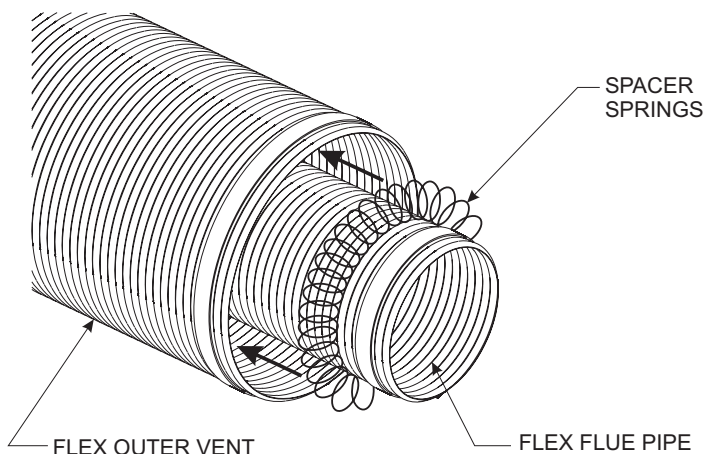
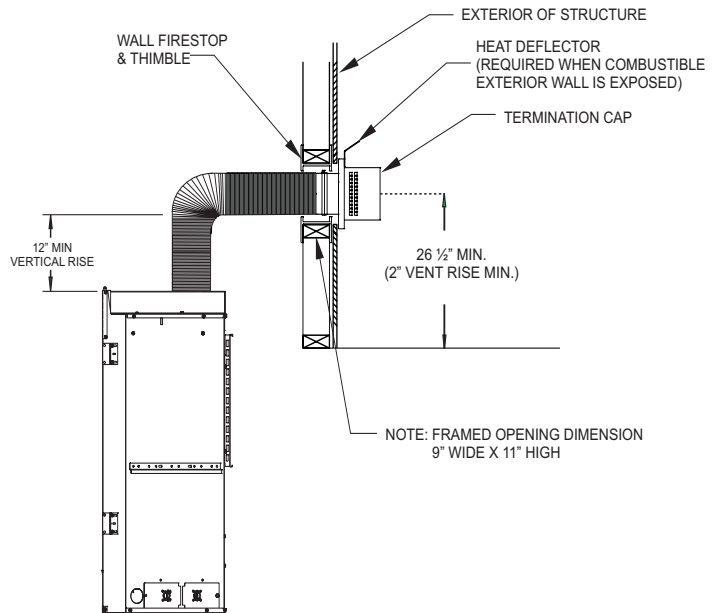

Figure 63
Figure 64
2. Check to see that the vent spacer springs are located around the flue vent at 8-in and 12-in intervals along its length. See **Figure 63**. If not, stretch the spacer springs to about 15-in long and wrap them around the flue, then interlock the ends of each spring about 2-in. See **Figure 64**. Maintain equal distance between spring spacers.